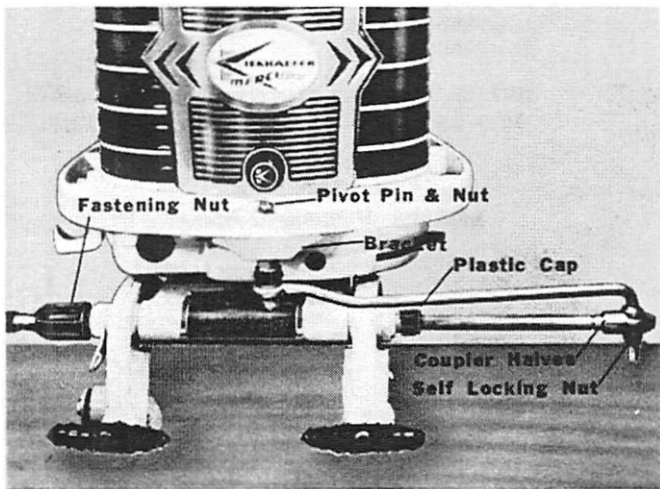

Figure 1. Attaching Kit Installed
1. Place pivot pin thru bracket and cowl from underside. Secure with nut. (Figure 1) Late models are equipped with steering bracket and pivot pin.